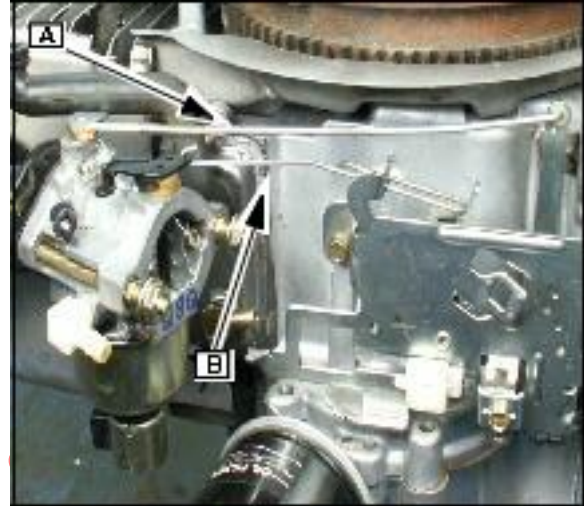

Fig. 52
Install governor link with spring (A) and connect choke arm ([B] Fig. 52) as shown.